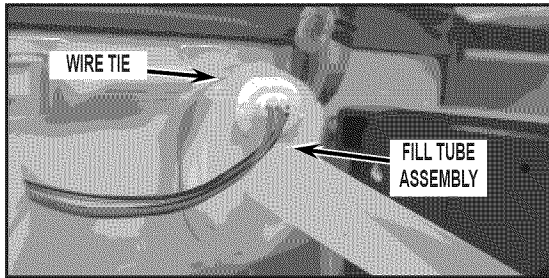

FIGURE 13
- Snap the top and bottom of the fill tube into place. Apply wire tie to fill tube assembly, cut off excess wire tie and discard. See *Figure 13*.